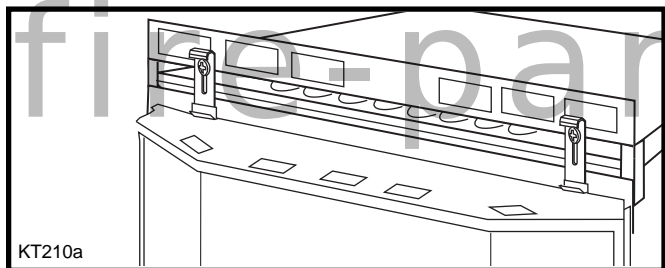

Fig. 64 Hang the window grille or the steel frame onto the lower tabs of the hanging brackets.
4. Install the bay window by hanging it onto the lower tabs of the hanging brackets, as shown in Figure 64.